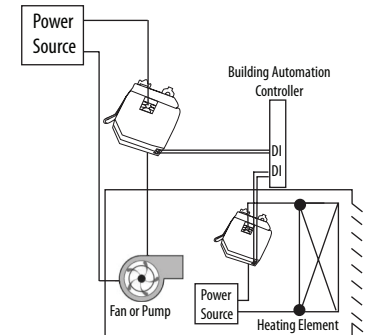

Figure 2:
- Wire CCM output terminals to the control box Digital Input (DI) terminal (30 VAC/42 VDC max. terminal voltage).
- Reconnect the power conductor cable (For wiring example, see Figures 2.)